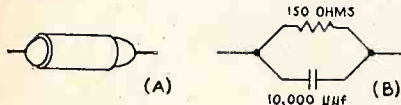

Fig. 7. Drawing and schematic of the Motorola CR-2 unit.
A drawing of the CR-2 unit in the Motorola schematic as it normally appears is shown at (A) in Fig. 7, in conjunction with its schematic diagram which appears in part (B). It consists of a single carbon resistor inserted